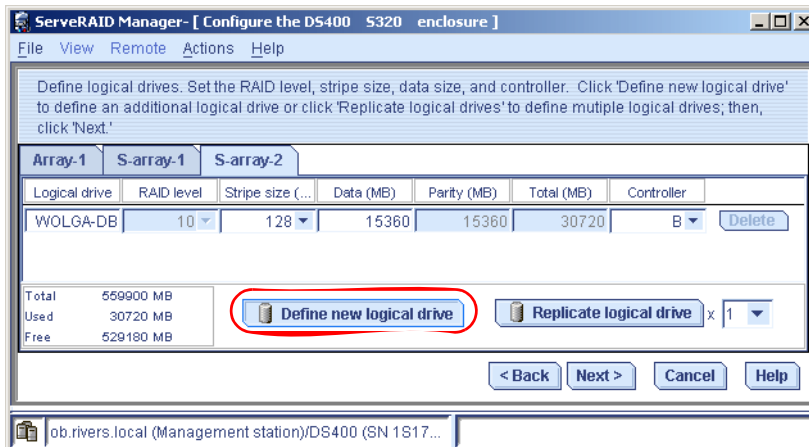

Figure 4-101 First logical drive for S-array-2
17. For S-array-2, define the name of the logical drive, stripe size, size and controller. The window shown in Figure 4-101 on page 140 shows the first